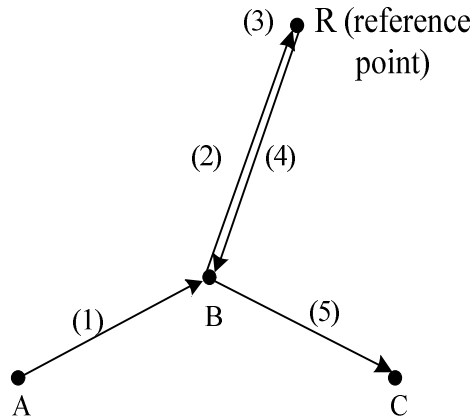

Fig. 4-3-1-1
1. The action of the G28 program segment can be decomposed into the following steps (see Figure 4-3-1-1):